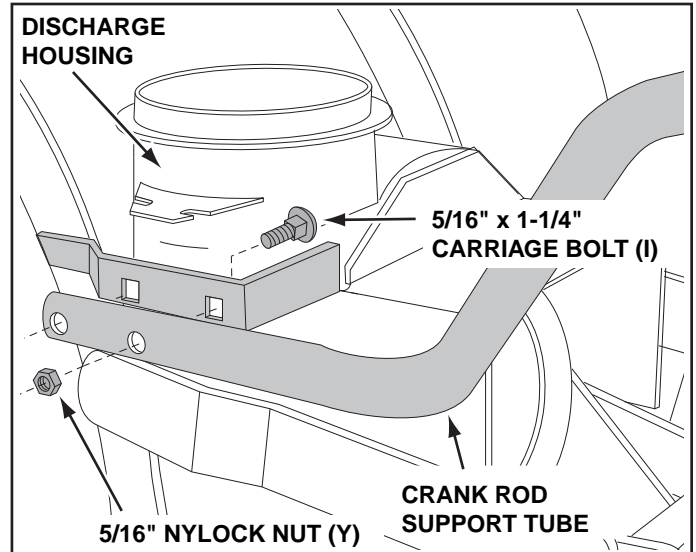

FIGURE 49 LEFT SIDE VIEW
STEP 50: (SEE FIGURE 49)
- Assemble the crank rod support tube to the bracket on the left side of the discharge housing using two 5/16" x 1-1/4" carriage bolts (I), and 5/16" Nylock nuts (Y).